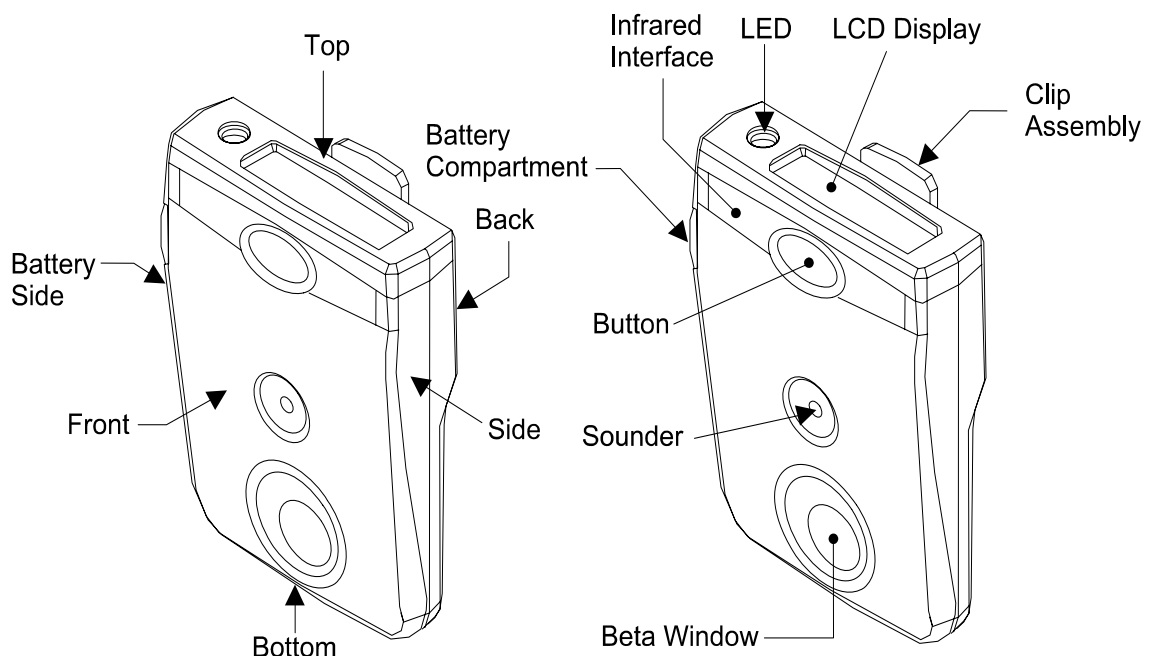

Figure 2.1 - External View Of The EPD*
- (i) Hp(10) personal dose equivalent at a depth of 10mm of tissue ('penetrating', 'deep' or 'whole body' dose).
The EPD calculates both the accumulated dose and the dose rate for Hp(10) and Hp(0.07). These, and other data, are stored in an internal store (EEPROM) within the EPD. A button in the EPD case allows the user to retrieve this data from store, select a range of displays, acknowledge alarms and perform user control functions. Data is displayed to the user on a LCD display on the top of the EPD (see Figure 2.1). To minimise the loss of data from battery or other failure, data is saved to secure memory within the EPD every 15 minutes.
A general view of the EPD is shown in Figure 2.1. External features are described in Table 2.1.